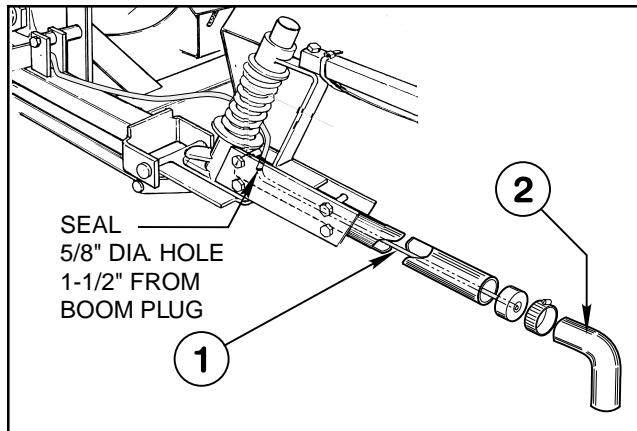

Fig. 7
16. Insert Boom Hose into 5/8" hole drilled in Boom Pipe, and push it into Boom Pipe until 2-3 inches of Boom Hose is extending beyond the opposite end of the Boom Pipe. (Fig. 7)
17. Replace the solid Boom Caps with the Punched Hole Boom Caps that are provided in Foam Marker Kit. (Fig. 7)
18. Lubricate the inside of the Extension Hose and slide it over the Cap and Foam Marker Hose and onto the Boom Pipe. Secure with hose clamp. (Fig. 7)